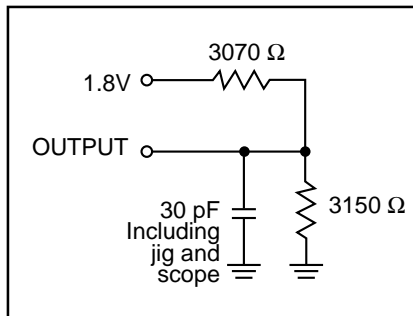

Figure 2.
2. Tested with the load in Figure 2. Transition is measured ± 500 mV from steady-state voltage. Not 100% tested.
3. Tested with the load in Figure 2. Transition is measured ± 500 mV from steady-state voltage.